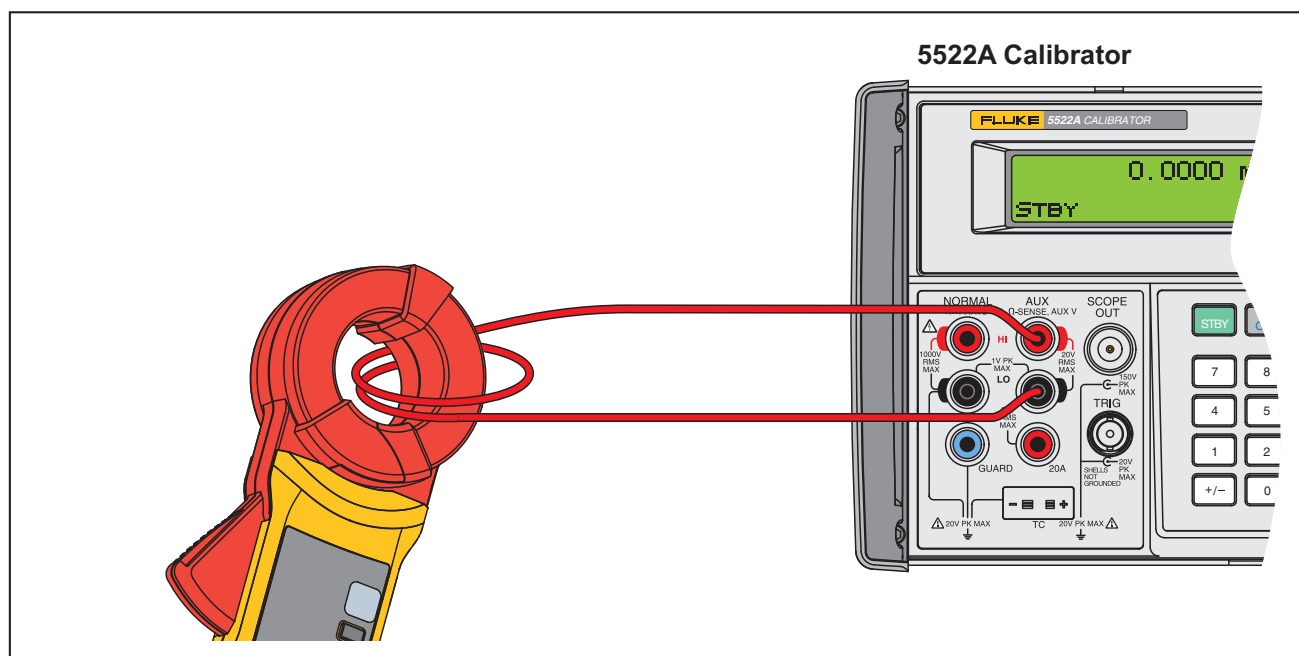

Figure 1. Calibration with 2-Turn Current Loop
2. At the next calibration step, if the screen shows "mA" and "AC", apply an AC current to jaw with a 2-turn current loop. See Figure 1. The calibrator output value should be half of the value shown on the screen. For example, the calibrator output should be 0.100 mA for the calibration point shown on the screen below. The current frequency should be 60 Hz.